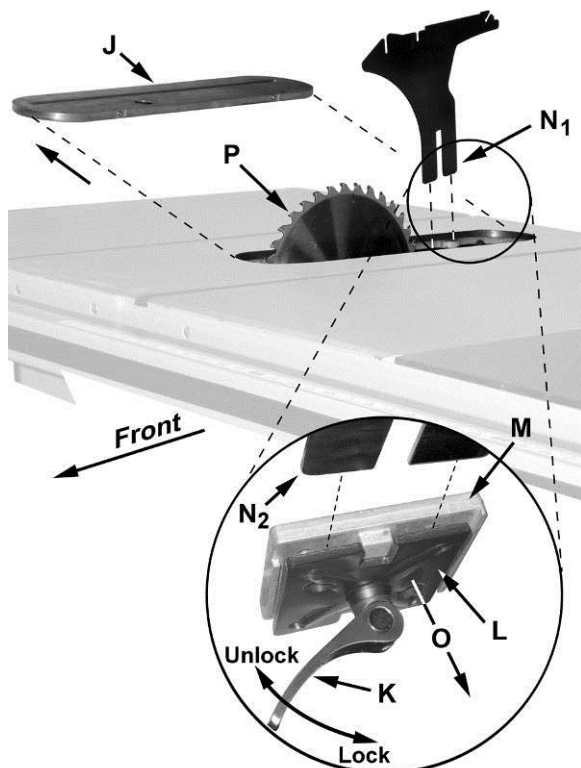

Figure 8
4. Rotate the arbor to line up the *slot* (C) with the *arbor lock* (D).
5. Press the *arbor lock* (D) in the direction shown by the arrow to engage it into the *slot* (C) in the *arbor*. At the same time remove the *arbor nut* (A), loosening with a 27mm wrench if necessary.
6. Remove the *collar* (B).
7. Install the blade, making sure the cutting teeth at the top of the blade point toward the front of the saw. If unsure, refer to Figure 8 for the proper blade orientation.
8. Replace the *collar* (B) and *arbor nut* (A).
9. Engage the *arbor lock* (D) and tighten the *nut* (A) with a 27mm wrench.
Referring to Figure 8:
3. Remove the table insert (J).
4. Located inside the table and accessible through the insert opening (Figure 8 inset), place the quick-release clamp lock handle (K) in the unlock position.
5. The floating clamp block (L) is spring loaded and will move away (O) from the fixed block (M), leaving a gap.
6. Insert the bottom of the riving knife (N1, N2) all the way into the gap between the clamp blocks (L, M); then lock the handle (K).
7. Replace the insert (J) back on the table. The saw blade and riving knife should protrude through the slot in the insert.
The clamping blocks (L, M, Fig. 8) are adjusted at the factory and no further adjustment of the blade guard and riving knife assembly should be necessary. However, **proper alignment is very important**. Before operating the table saw, read *Riving Knife Adjustment* (p.14) to verify and follow the adjustment procedure if necessary.